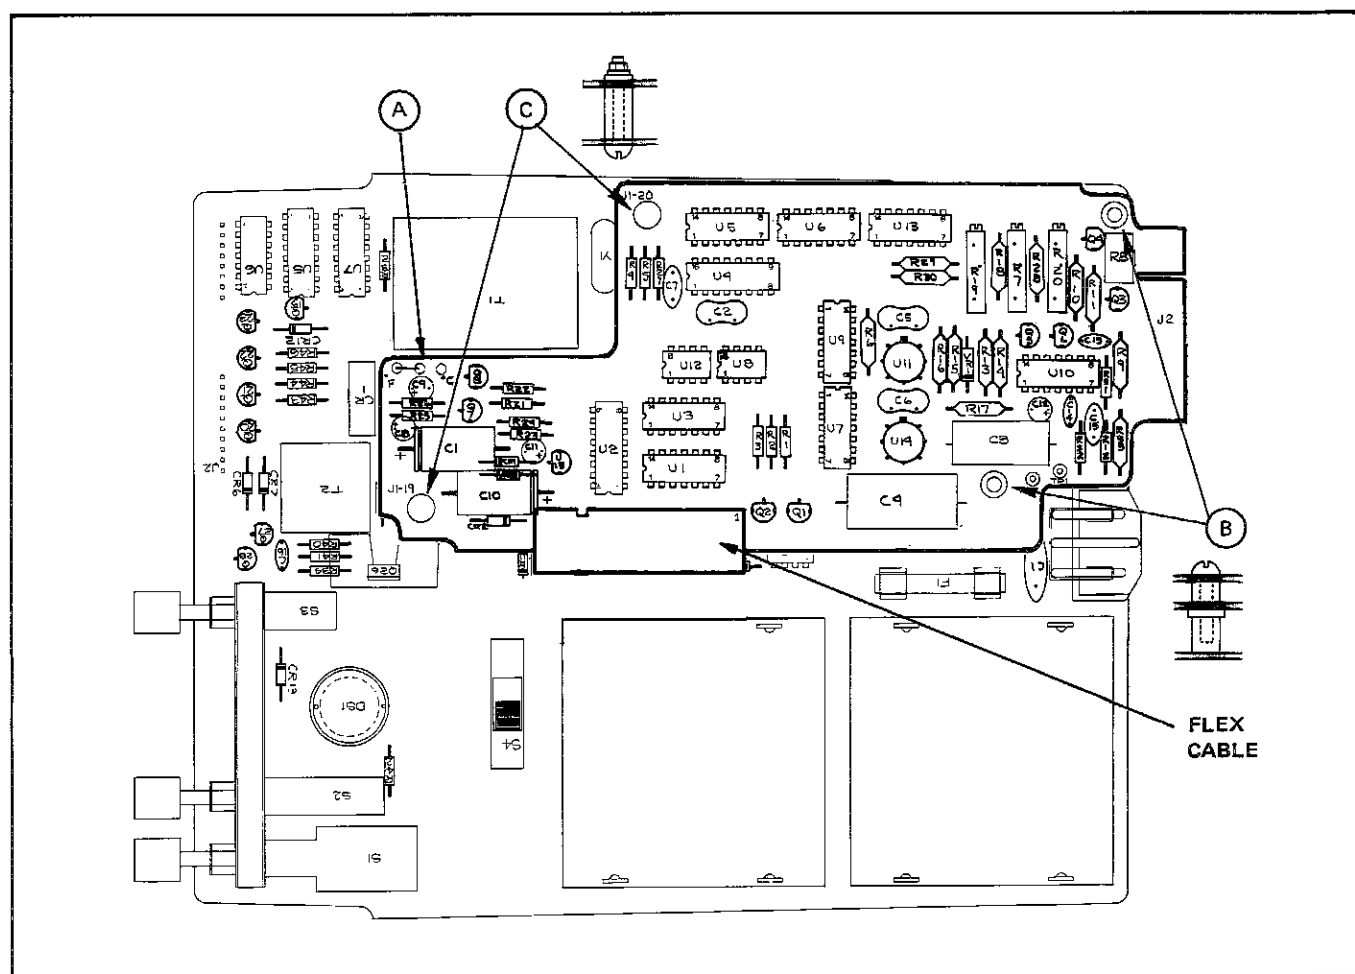

Figure 604-2.
- c. Refer to Figure 604-2, location B and remove the two screws indicated from the thermometer pcb.
- d. Position the Analog Output Unit pcb over the thermometer pcb with the component side up as shown in Figure 604-2 and carefully plug the Analog Output Unit's flex into the connector provided on the thermometer pcb assembly.
- e. Using the hardware supplied with the Analog Output Unit (screws, stand-offs, nuts, and washers) mount the Analog Output Unit pcb to the thermometer pcb. Hardware installation details are shown in Figure 604-2, locations B and C.
- f. Check the Analog Output Unit pcb to ensure that there is no jumper installed in location A as shown in Figure 604-2. Remove any jumper that may be present.